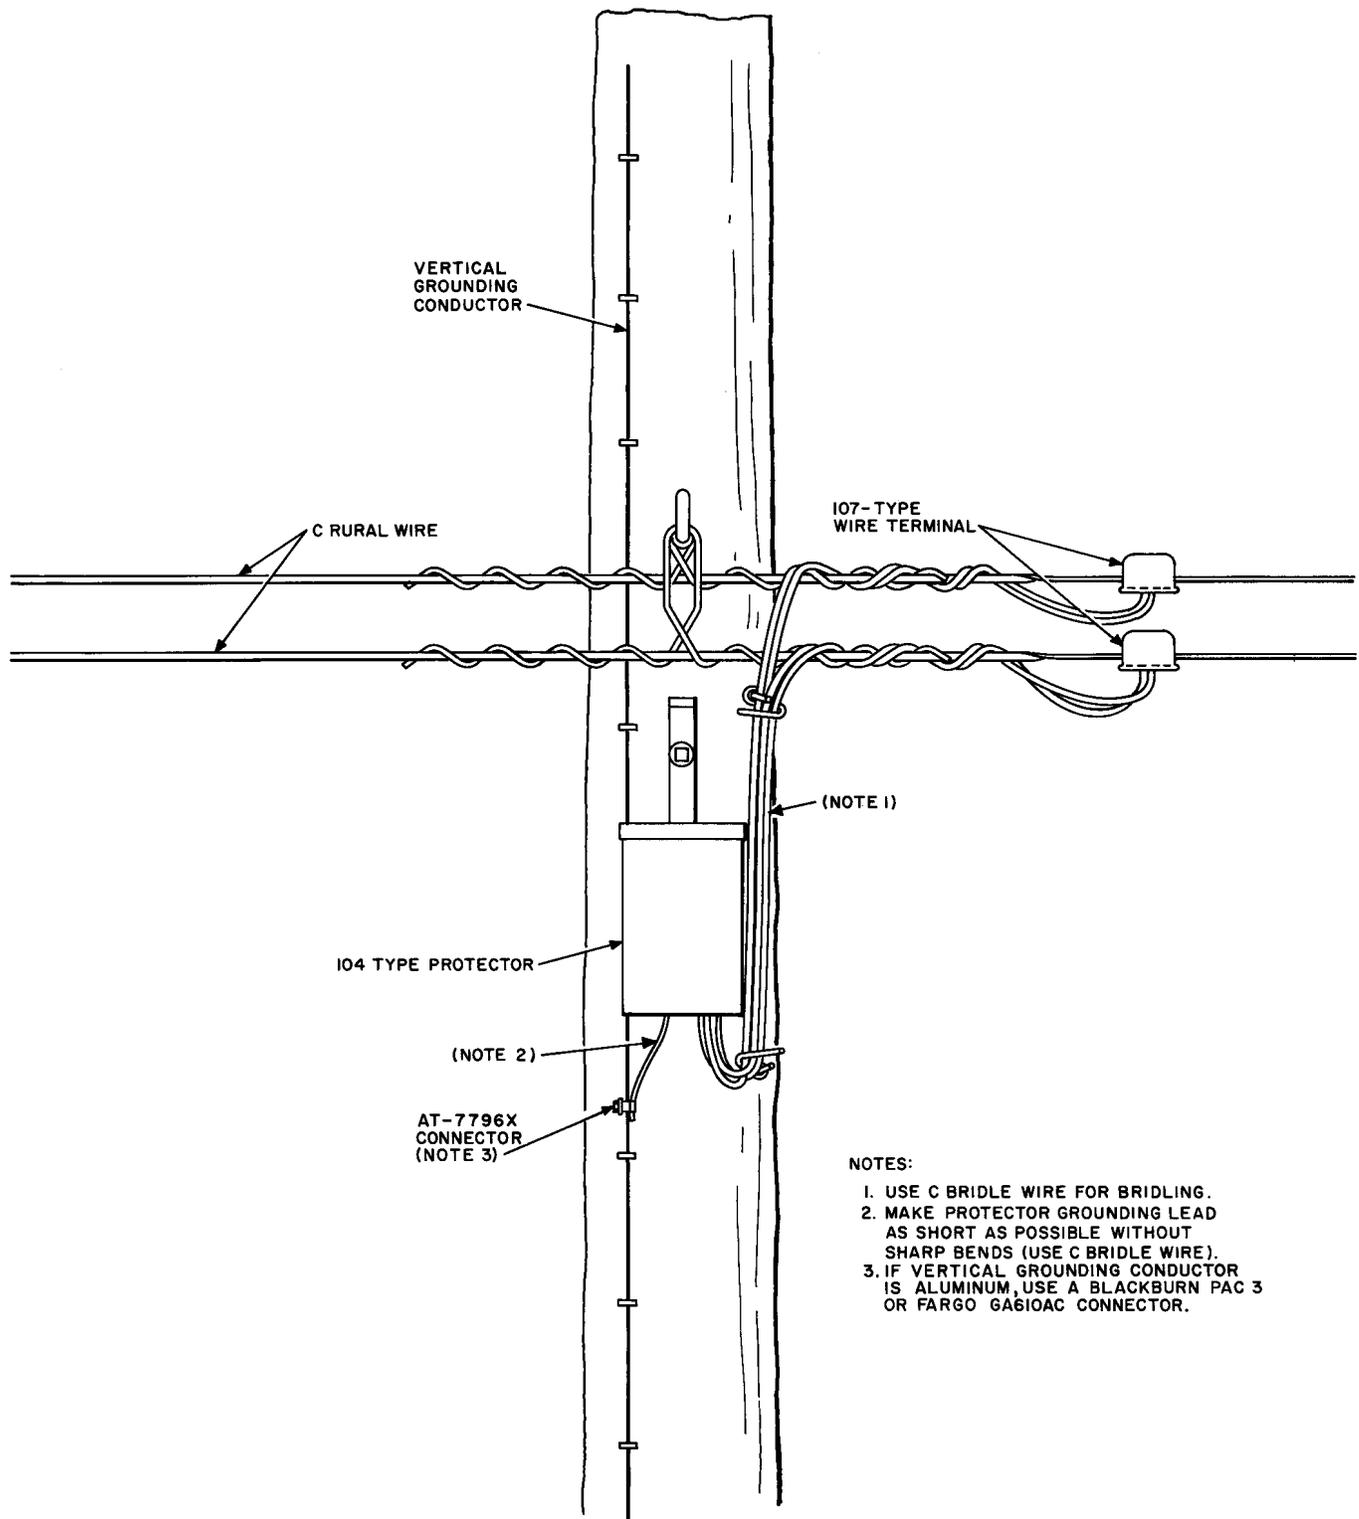

Fig. 3—104-Type Protector Mounted on C Rural Wire
4.02 Mounting a 104-type protector and wiring it to C Rural Wire are shown in Fig. 3. The